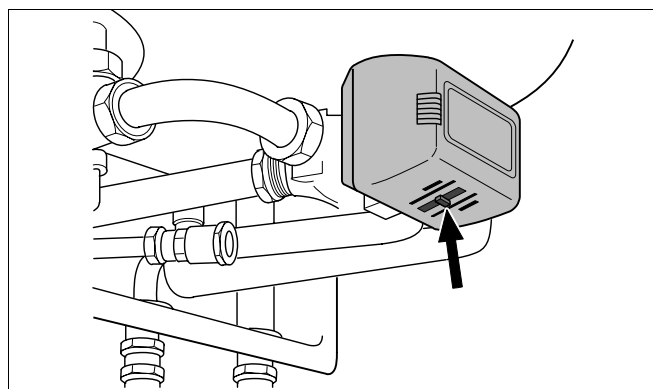

Fig. 2 Mechanical switch on the three-way valve
- Move the mechanical switch on the three-way valve to centre position (fig. 2) (applicable for 24T25 and 29T25 only and systems with an external storage-type water heater).